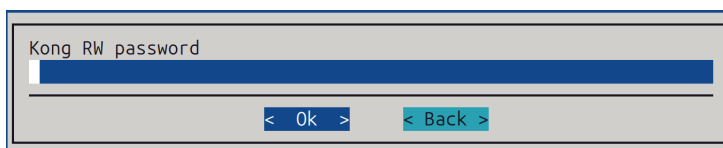

Figure 2.9: NetQ deployment: setting the read/write password
9. The Kong (NMX API) read/write password is set, if NVL Mode has been chosen (figure 2.9):